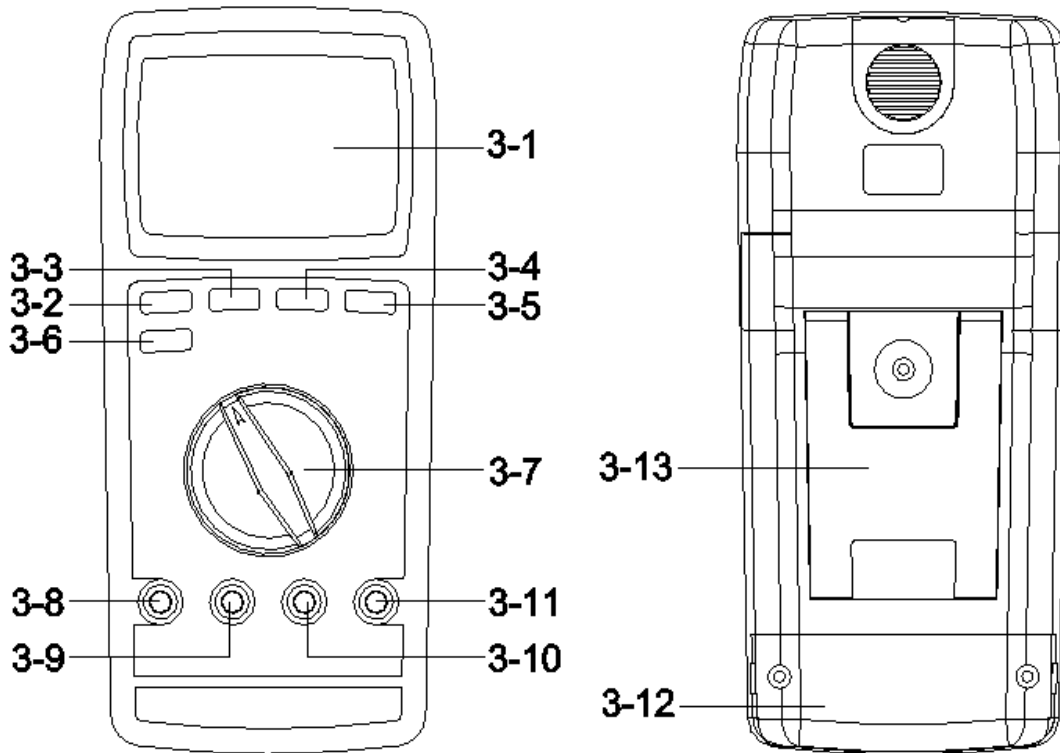

Fig. 1
- a. When not use the meter, should rotate the " Function rotary switch " (3-7, Fig. 1) to the " OFF " position.
Press the " Hz button " (3-5, Fig. 1) while turning the " Function switch " from the " OFF " position to the desiring function position.
- 1) Connect BLACK test lead into " COM " terminal (3-10, Fig. 1)
- 2) Connect RED test lead into " V " terminal (3-11, Fig. 1).
- 3) Select the " Function rotary switch " (3-7, Fig. 1) to the " V " position, Display will show " SMART " marker. meter is under " Smart " mode for voltage AC/DC auto scanning.
- 5) Push the " SELECT button " (3-2, Fig. 1) to select the " ACV " or " DCV " measurement.
- 7) Under the operation of " auto range " mode, push the " Range button " (3-6 Fig. 1) once will execute the " Manual Range " mode and hold the range, the LCD will show the " MANU " marker.
During the measurement, if push the " Hz button " (3-5 Fig. 1) once, until the LCD show the " Hz " marker and the display will show the frequency value of the measurement signal.
- 1) Connect BLACK test lead into " COM " terminal (3-10, Fig. 1).
- 2) Connect RED test lead into " Ω " terminal (3-11, Fig. 1).
- 3) Select the " Function rotary switch " (3-7, Fig. 1) to the " Ω " position.
- 5) Under the operation of " SMART " mode, push the " SELECT button " (3-2 Fig. 1) will execute the "AUTO Range" mode, the LCD will show the " AUTO "marker.
- 1) Connect BLACK test lead into " COM " terminal (3-10, Fig.1)
- 2) For the " mA, uA " measurement, connect RED test lead into " mA uA " terminal (3-9, Fig. 1).
For the " 10 A " current measurement, connect RED test lead into " 10A " terminal (3-8, Fig. 1).
- 3) For the " uA " measurement (600 uA, 6000 uA), select the " Function rotary switch " (3-7, Fig. 1) to " uA " position.
For the " mA " measurement (60 mA, 600 mA), select the " Function rotary switch " (3-7, Fig. 1) to " mA " position.
For the " 10 A " measurement, select the " Function rotary switch " (3-7, Fig. 1) to " 10A " position.
- 5) Push the " SELECT button " (3-2, Fig. 1) to select the " ACA " or " DCA " measurement,
- 1) Connect BLACK test lead into " COM " terminal (3-10, Fig 1.)
- 2) Connect RED test lead into " $\bullet \rightarrow$ " terminal (3-11, Fig. 1).
- 3) Select the " Function rotary switch " (3-7, Fig. 1) to the " $\bullet \rightarrow$ " position.
- 2) Connect RED test lead into " Ω " terminal (3-11, Fig 1.)
- 3) Select the " Function rotary switch " (3-7, Fig. 1) to the " \rightarrow " position.